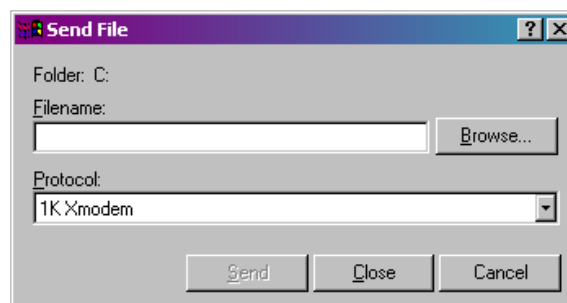
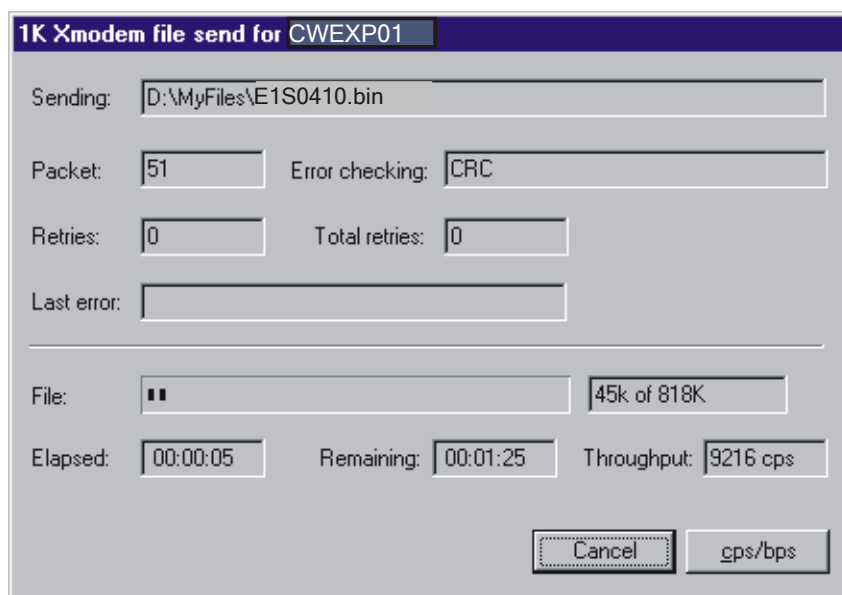

Figure 5-3. Send File dialog box
Figure 5-4. HyperTerminal (Download in Progress)
8. In the Send File dialog box (see Figure 5-3), select **1KXmodem** for the protocol, enter the filename of the appropriate .bin file in the format “E1Sxxxxx.bin” or “E3Sxxxxxx.bin” (where E1S refers to 14 MHz CPUs, and E3S refers to 33 MHz CPUs and xxxxx varies from release to release) and click **Send** to start the flash upgrade (see Figure 5-4). When you see the HyperTerminal Mode Menu again, it means the download has completed.